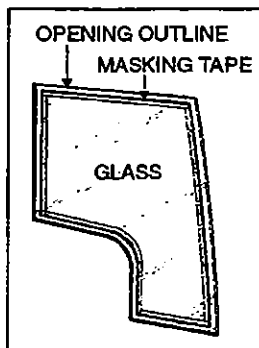

Figure 37 18080
4. Place masking tape on the inside surface of the glass to just cover the china pencil mark, leaving the outer surface exposed for the adhesive. This will make cleanup much easier. For ease of removal, do not overlap the tape at corners. See figure 37.